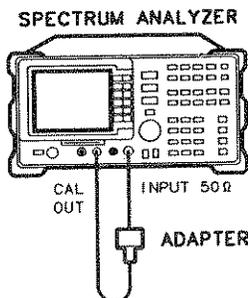

Figure 3-21. Displayed Average Noise Level Test Setup
1. Connect a cable from the CAL OUT to the INPUT 50Ω of the analyzer as shown in Figure 3-21. *Option 001*: Use a 75Ω cable and omit the adapter.